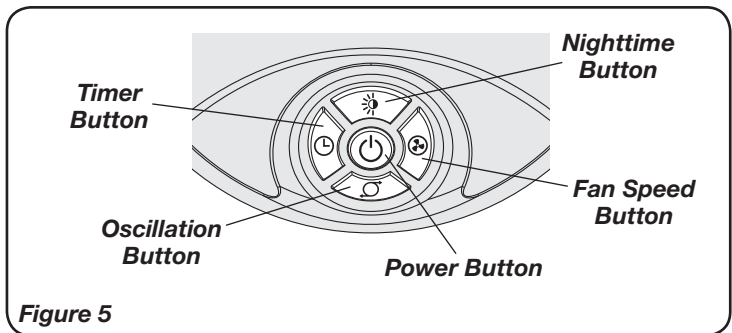
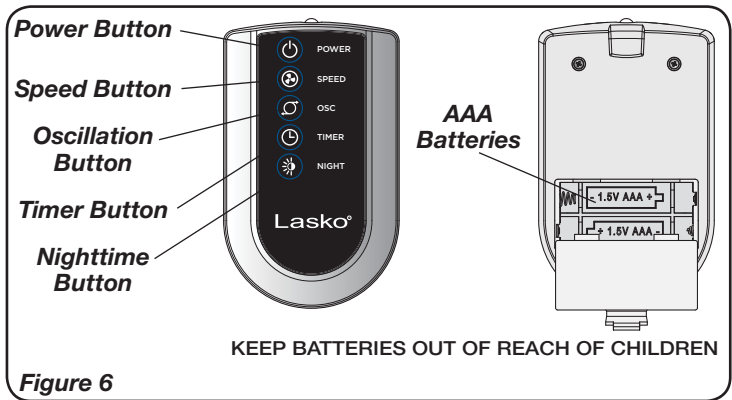

Figure 5
Figure 6
This Fan may be operated by the Manual Controls located on front of the unit (Figure 5) or by the Remote Control (Figure 6).
1. Install two “AAA” batteries (not included) as shown in Figure 6.